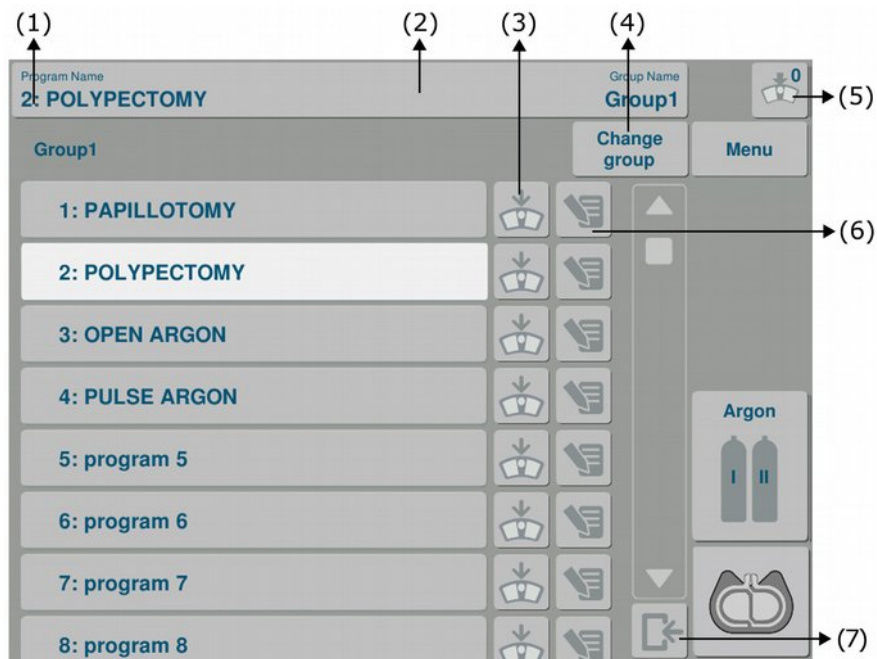

Figure 33. Program management window.
The program management windows contains (**Fig. 33**):
The MultiSwitch button at the program name (**Fig. 33, item 3**) is used to add/remove the MultiSwitch function to/from the list of programs for the currently selected program.
It is possible to save a program in a different group by using the "Group change" button (**Fig. 33, item 4**). A group can be changed similarly to program change.
The number of programs in the list is indicated on the button (**Fig. 33 item 5**). The number of the currently selected program is next to the program name (**Fig. 33, item 1**).